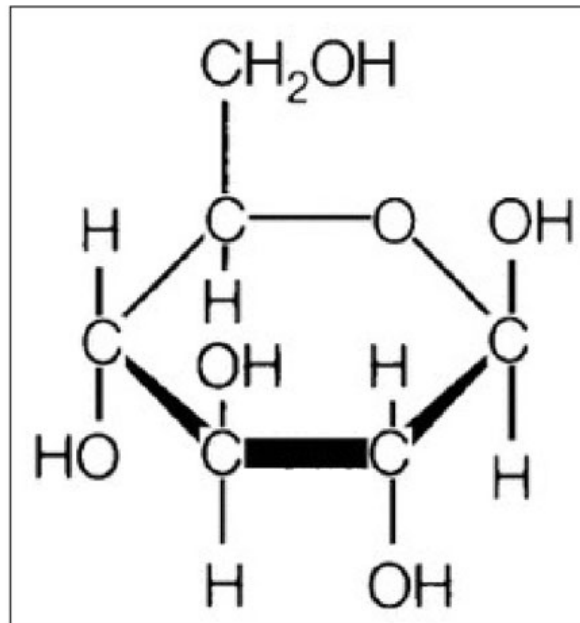

Figure 5 – Glucose
In a kernel of grain, inside the individual cells of the endosperm (main body of the kernel), Mother Nature has placed coiled-up molecules of starch. The basic structure of glucose (2) is shown in Figure 5. Repetitively joining glucose units so that carbon atoms 1 and 4 are close together (1-4 linkage) will generate an amylose starch.
Notice in Figure 5 that the OH group at the right side of the glucose molecule is facing upwards. If it were facing downwards and if between 7000 and 15,000 such units were joined together using 1-4 linkages, the result would be a material substance called cellobiose. Join together thousands of such units and the resulting material will be cellulose which is a major constituent of wood.
If Mother Nature did some further re-arranging of the structure in Figure 5 so that the H-OH structures at carbon atoms 2 and 3 were flipped around,